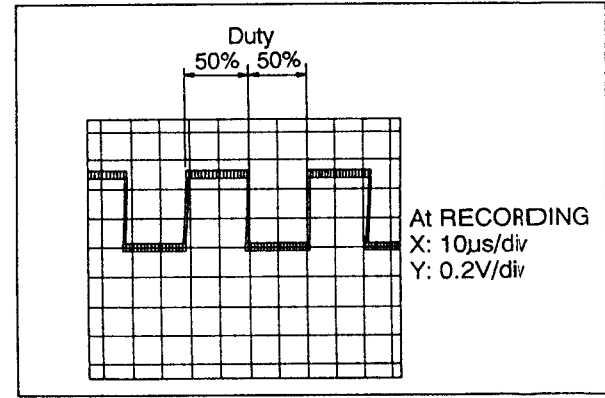

Fig. 3
- Load a **DCC blank tape (RFKZ0033)** into the unit under test and put the unit in **REC mode**. Verify that a continuous **47 Hz square wave with a 50 percent duty ratio** is observed on the scope (see Fig. 3). This is the normal result. Also verify that the same waveform is observed when a prerecorded ACC tape is played.